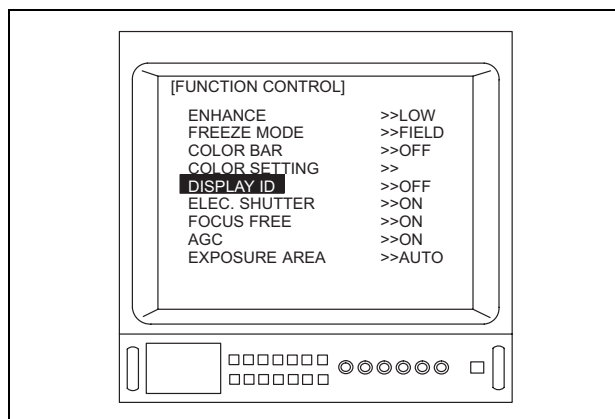

Figure 5.55
5. Depress the menu switch “←” or the “Enter” key on the keyboard to adjust “DISPLAY ID” (see Figure 5.55).